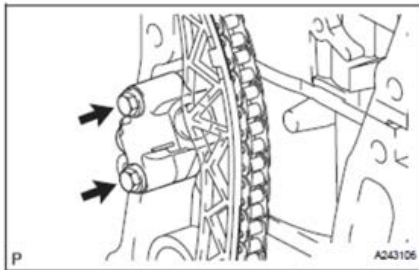

Figure 11
Remove timing chain tensioner. Refer to figure 11:
Using a 10 mm socket wrench, remove the two (2) bolts holding the timing chain tensioner to the engine block. (Figure 11)